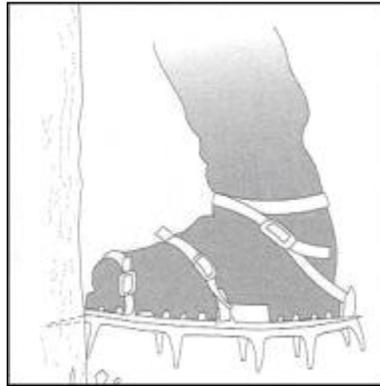

Figure 21-24
- (1) Crampon Placement. (Fig 21-24)